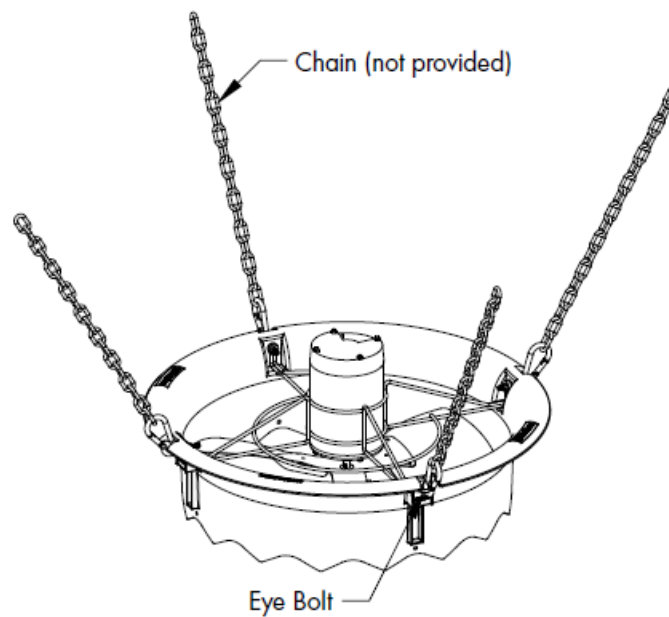

Figure 2
Step 2: For Vertical Airflow attach chain to 4 of the Eye Bolts on the fan and then hang the fan from trusses. See Figure 2. Chain and hanging hardware not provided.